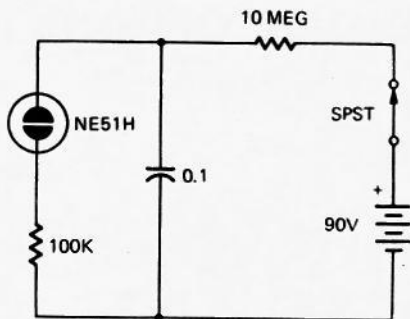

FIG. 1
In desperation I made several small battery-powered neon relaxation (RC) oscillators (Fig. 1) that I turn on